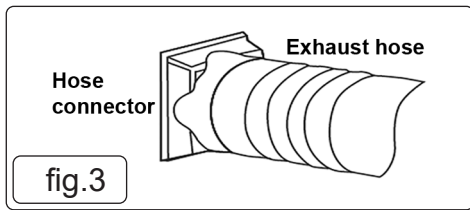

fig.3
5.2.1. Screw fit the hose connector to one end of the exhaust hose (fig.3).